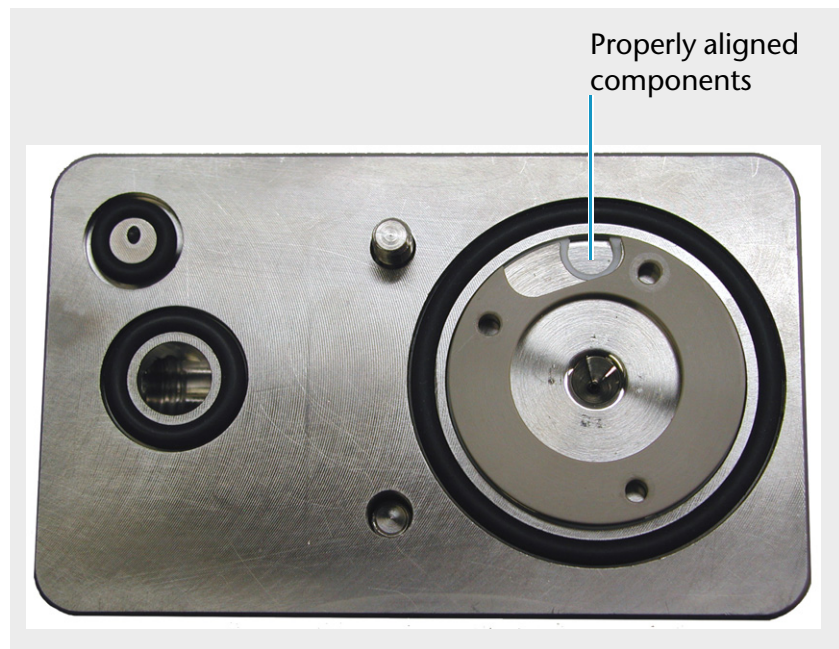

Fig. 70 Source block with the proper alignment of the extraction cone insulator, extraction cone, and hexapole insulator
6. Ensure that the semicircular cutouts in these three components line up, as shown in Figure 70.